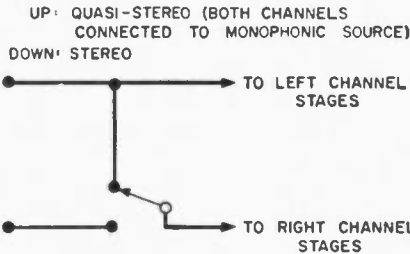

Fig. 13. Phase-reversal switching setup.
5. *Phase Reversal:* This permits the phase of one channel to be reversed 180 degrees. If the stereo amplifier is an integrated unit, containing power amplifiers, this can be accomplished by simply reversing the leads to one set of speaker terminals, as shown in Fig. 13. If the unit is solely a control amplifier, phase reversal must be accomplished electronically, as shown in Fig. 14, by an extra tube stage. The unwanted amplification is offset by a voltage attenuator, either a voltage divider at the grid, as shown in Fig. 14, or a